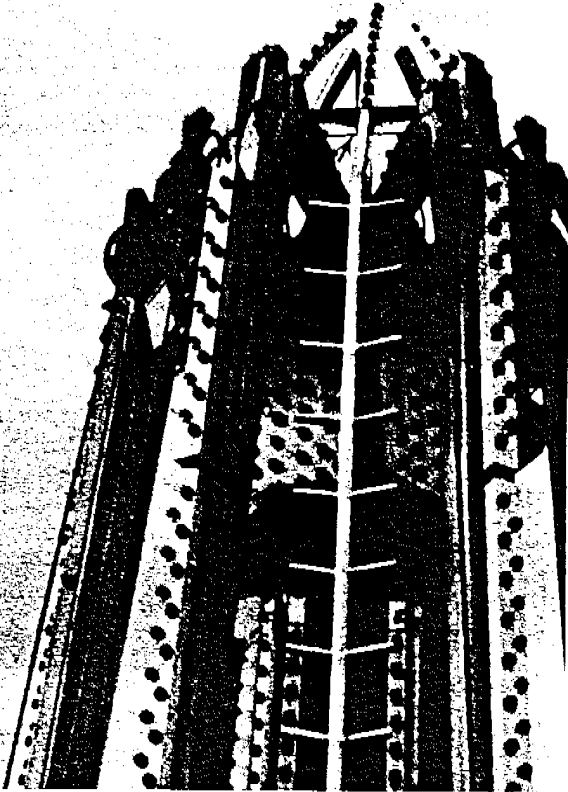

Fig. 18
- (2) Hook the top of the ladder over the ears at the top of the tower. (Fig. 18)